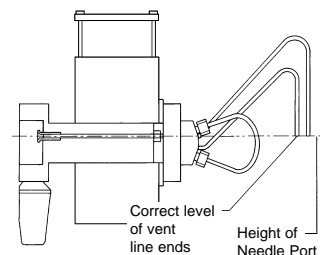

Fig. 2. Correct position of vent lines.
c) See **Caution 4.5**. Connect the two vent tubes supplied to Ports 5 and 6. Place the outlet ends of both at the same horizontal level as that of the needle port to avoid siphoning (see Figure 2).